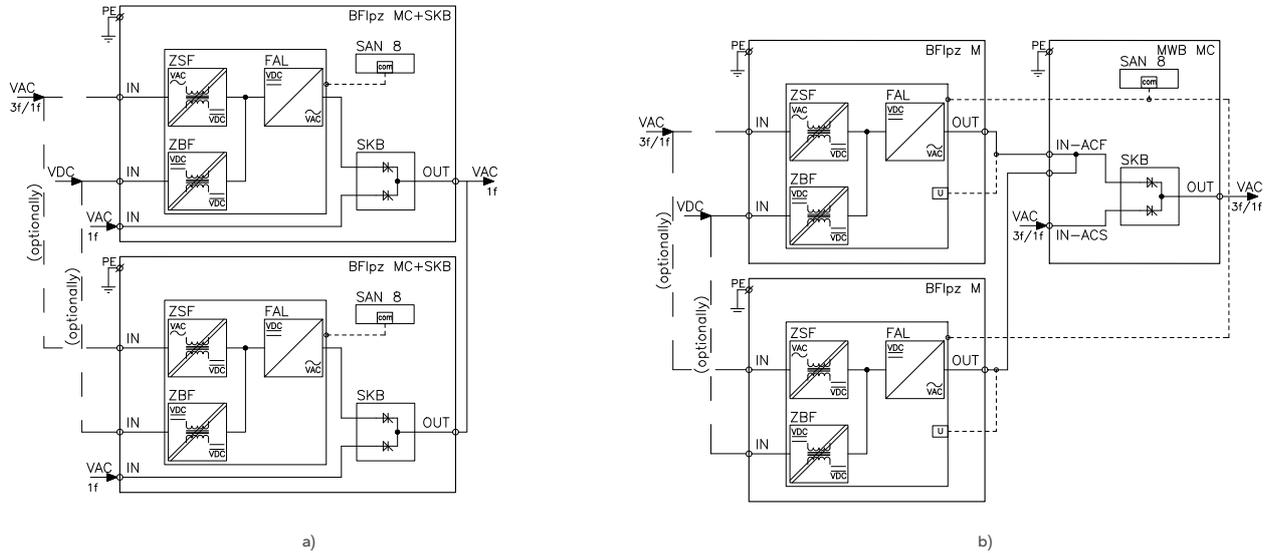
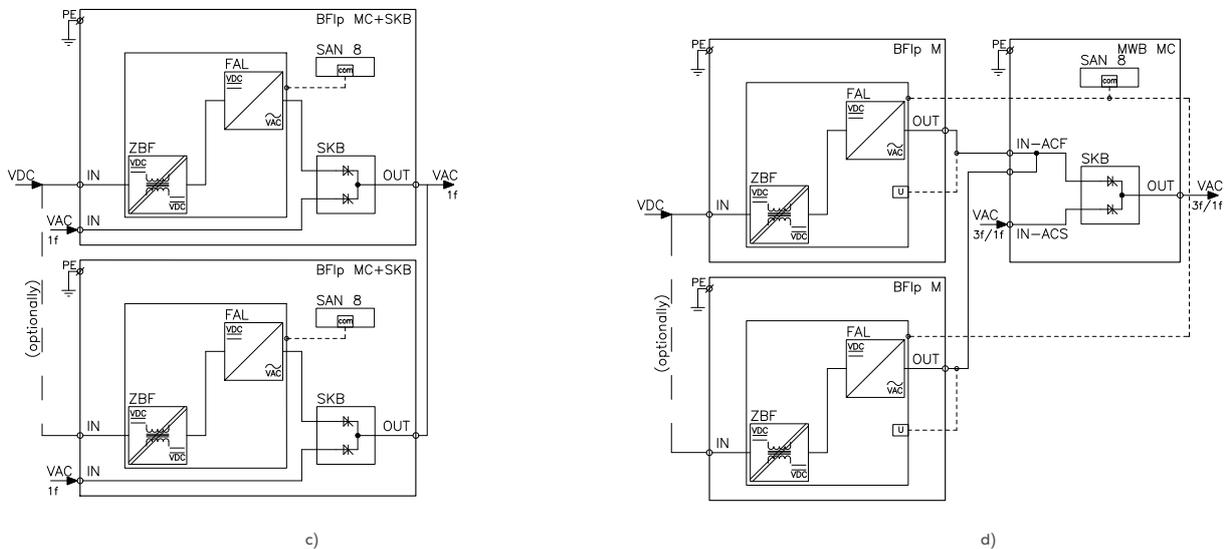

Fig. 49. Block diagram of the inverter module for parallel operation with the BF1pz power supply unit. Possible configurations:
Fig. 50. Block diagram of the BF1p type inverter module for parallel operation. Possible configurations:
1. Two modules – Fig. 49 a), Fig. 50 a):
2. Three modules – Fig. 49 b), Fig. 50b):
In configuration 1 – the BFlpz+SKB inverter module is supplied by the basic AC network voltage, DC voltage, as well as the AC reserve network voltage (the automatic bypass supply voltage – this is a standard solution used to increase the reliability of the system) (Fig. 49 a). On the other hand, the BFlpz+SKB inverter module is supplied from DC voltage and a reserve AC network voltage (Fig. 50 a).
In configuration 2 – the BFlpz inverter module is supplied by voltage of the basic AC network and DC voltage – Fig. 49 b), while the BFlp inverter module is supplied from DC voltage (Fig. 50 b). The MWB modules is supplied by voltage of the AC reserve network (the automatic bypass's supply voltage – this is a standard solution used to increase the system's reliability), as well as output voltages of inverters (Fig. 49 b, Fig. 50 b).